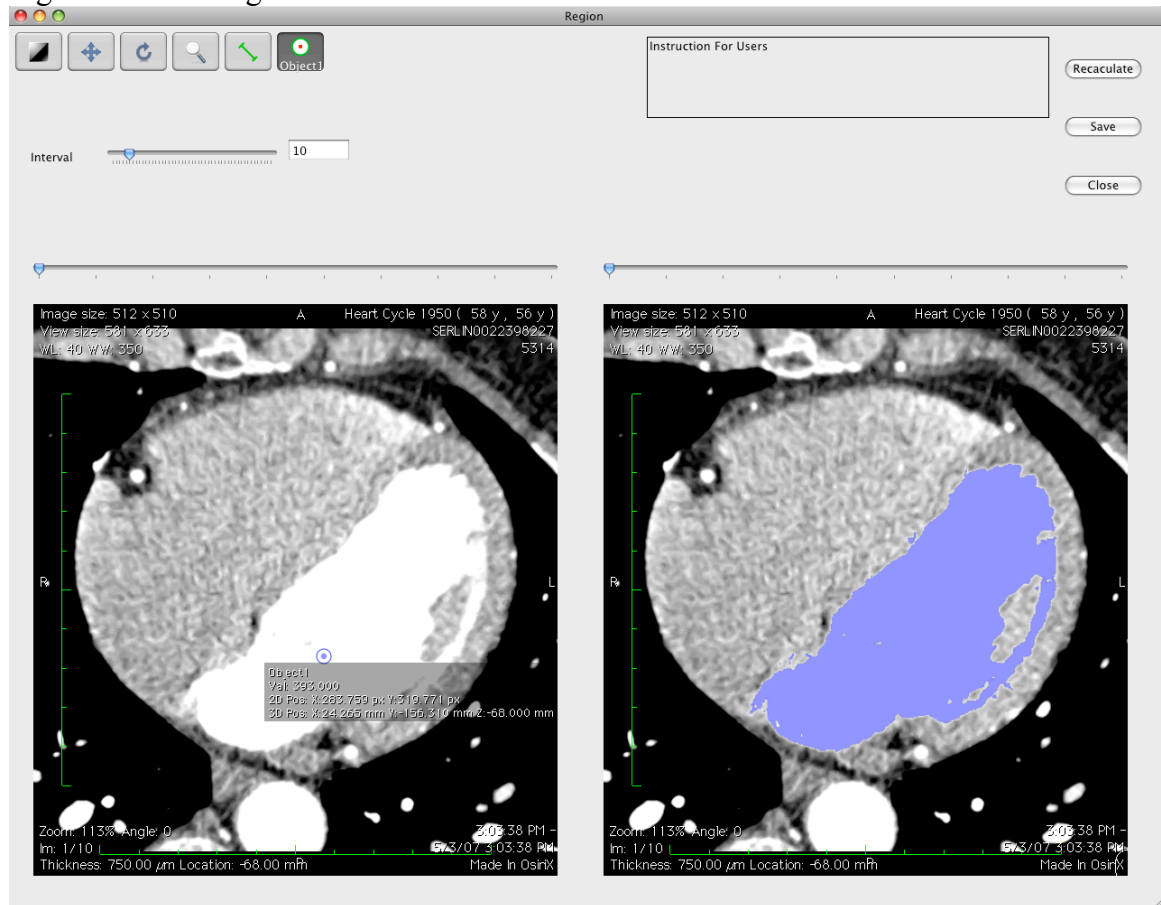

Figure 8 The user interface of “Region”.
- save the configuration and restart OsiriX. A new menu item “Region” will show up in the menu list. Run the function a new window will open as in Figure 8. It will first give a “failed” warning because no result image is sent back. Ignore it and choose the “Object1” button and click a point on the left window. The region growing result will show in the right window as a blue mask.